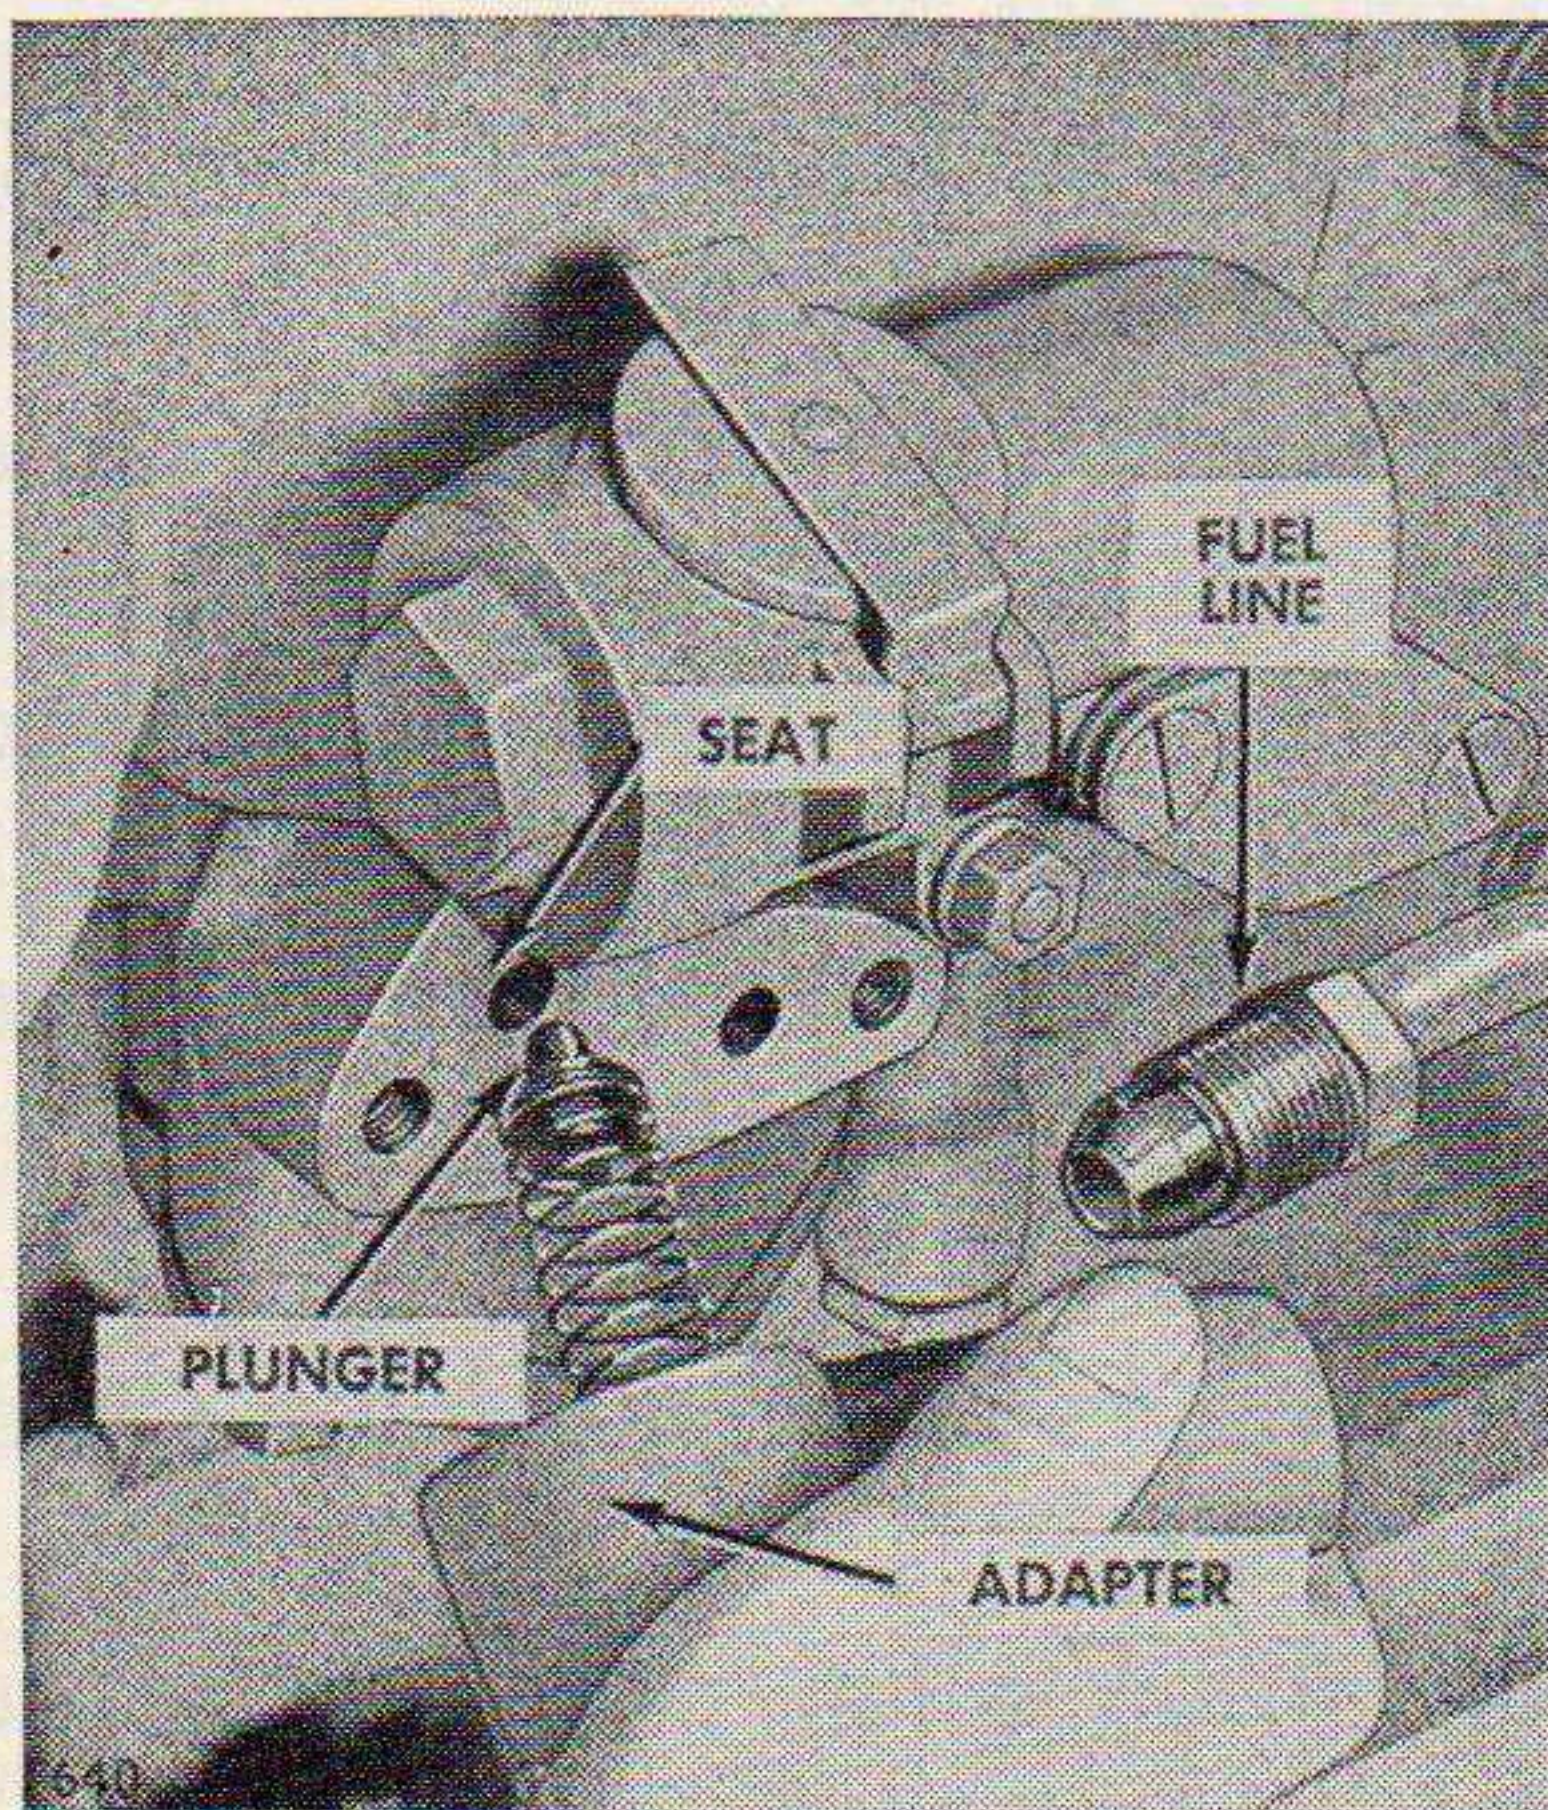

Figure 78. Removing fuel transfer pump adapter.
b. FUEL TRANSFER PUMP ADAPTER. (See fig. 78.)
- (1) *General.* If dirt lodges between the plunger in the adapter and the seat on the machined surface of the transfer pump, the effect at slow speed will be similar to that produced by clogged